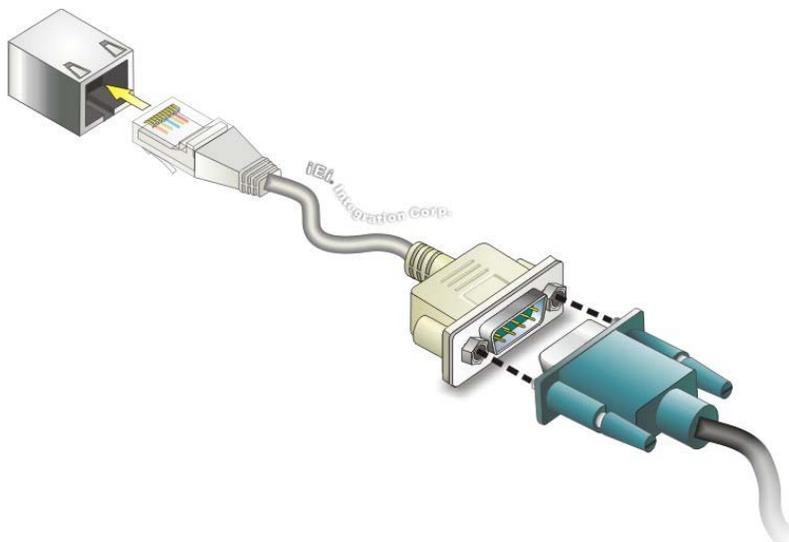

Figure 4-22: RJ-45 Serial Port Connector
- Step 2:** Connect the RJ-45 to COM port cable to the panel PC. Insert the RJ-45 connector end of cable into the RJ-45 serial port. See **Figure 4-22**.
- Step 3:** Connect the serial device. Connect a serial device to the D-sub 9 connector end of the cable. See **Figure 4-22**.